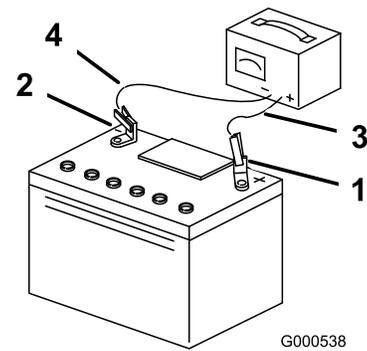

Figure 44
- When the battery is fully charged, unplug the charger from the electrical outlet, then disconnect the charger leads from the battery posts (Figure 44).